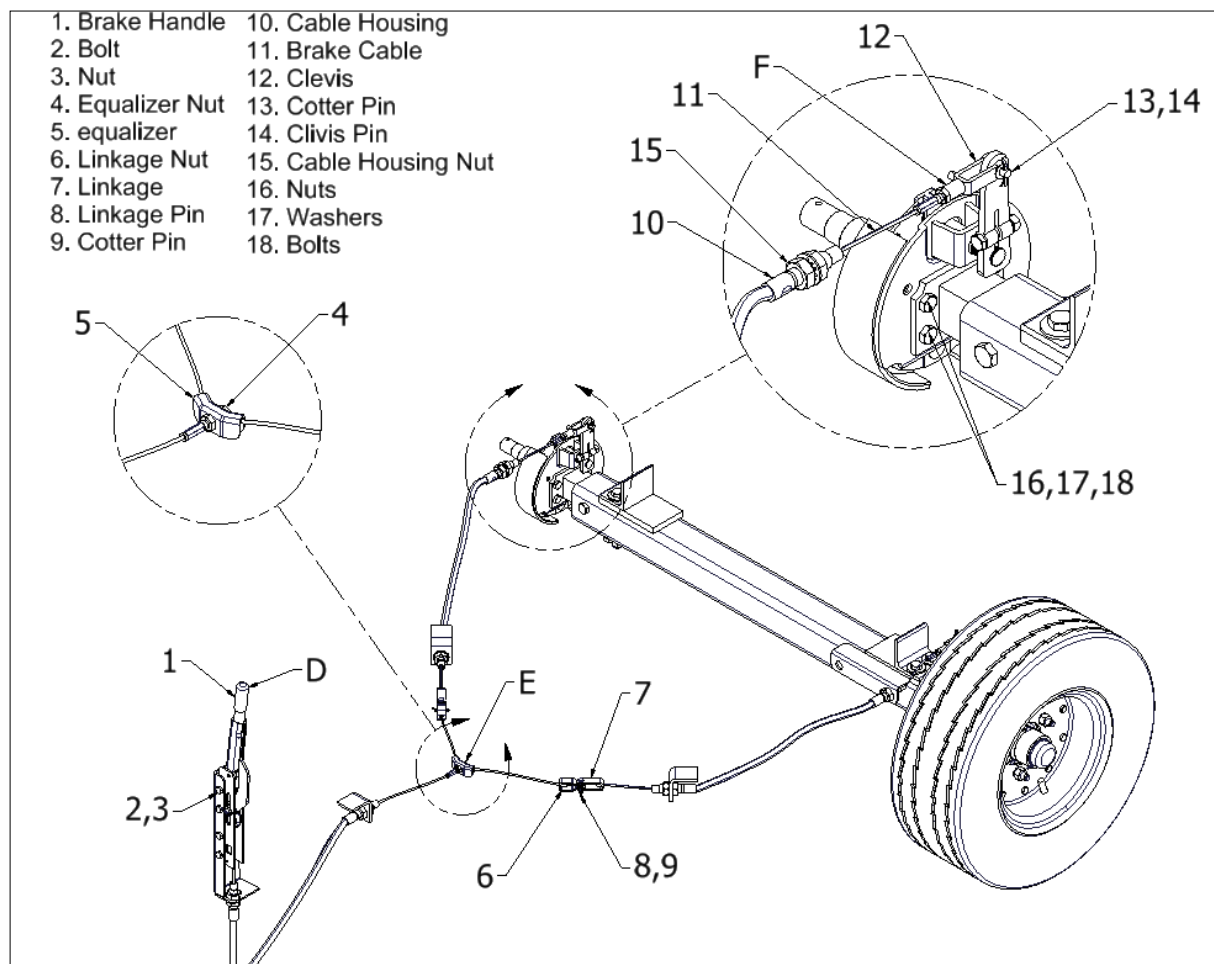

Figure 4-10 Brake and Cable Assembly
- Remove brake cable end from arm (5) as described in Section 4.17, step (a).
- Remove nuts (16), washers (17), and bolts (18) shown in Figure 4-10.
- Remove spring (3).
- Release brake shoes (2) by removing spring (9) from the backing plate (1).
- Remove nut (7), lock washer (8), and bolt (6) to release arm (5).
- Remove brake cam bolt (4) by pulling directly outward.
An in-field adjustment can be made at the brake handle by turning the handle cap clockwise to tighten brakes and counterclockwise to loosen the brakes (see reference arrow D in Figure 4-10.) This adjustment must be made with the brake handle in the off position. Maintenance level adjustments can be made at reference arrow E and reference arrow F of Figure 4-10 (each side).
The brake handle and cable assembly only need to be disassembled to the point that the repair is needed. These instructions start at the wheel assembly and progress toward the brake handle (1). (Figure 4-10)
- a. Remove cotter pin (13) and clevis pin (14) to release clevis (12).
- b. Unthread clevis (12) from cable
- c. Remove nut (15) and remove cable housing (10) from bracket.
- d. Remove nut at opposite end of cable and disassemble cable linkage parts (6), (7), (8), and (9).
- f. Remove nut (4) to release cable equalizer (5).
- h. Remove nut at other end of cable and release cable by disassembling cable linkage from brake handle (1).
- i. Remove bolts (2) and nuts (3) to free brake handle (1).